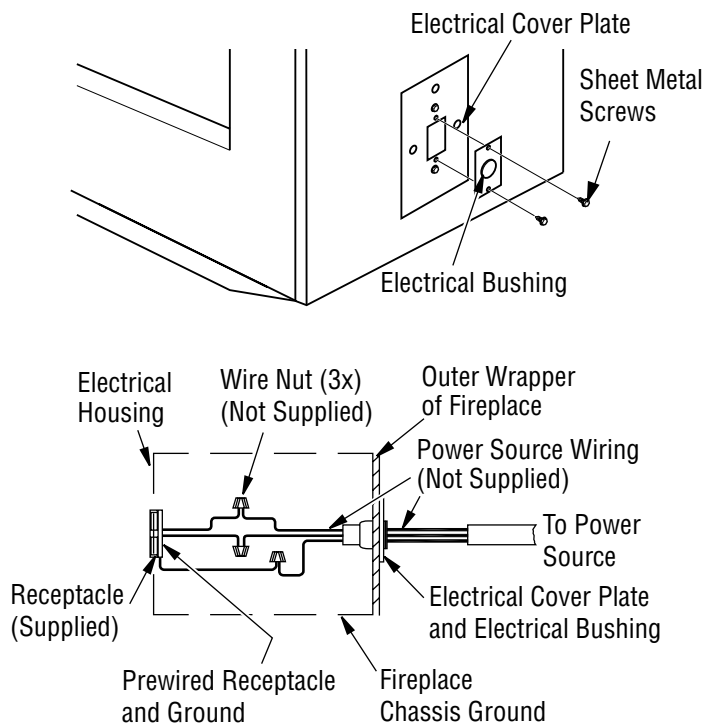

Figure 6 - Fan Switch-Electrical Bushing
Fan/blower kit electrical connections are made through electrical cover plate on side of fireplace as shown in **Figure 6**.
1. Remove electrical cover plate with bushing from fireplace by removing 2 sheet metal screws as shown in Figure 6.
3. Slide all wiring connections in electrical housing as shown in **Figure 6**.